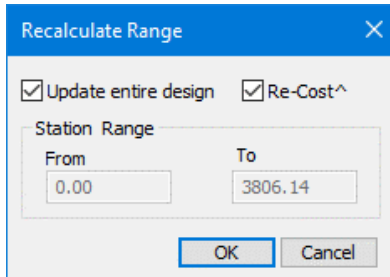

Figure 11-3: *Recalculate Range* Dialogue Box with the *Re-Cost* Option Set
9. Ensure the *Re-Cost* check box when prompted with the *Recalculate Range* dialogue box (Figure 11-3)